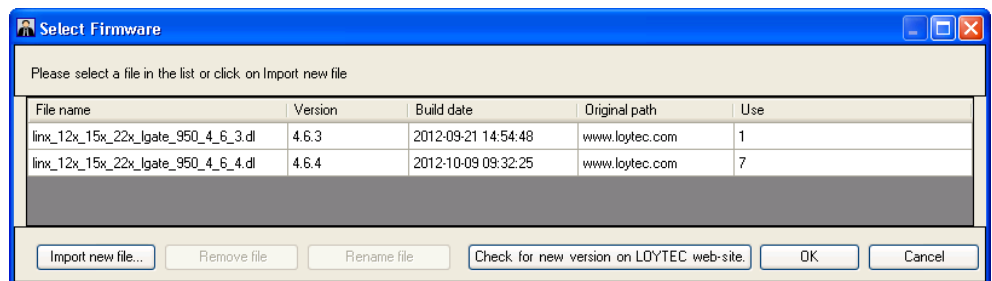

Figure 204: Select Firmware Dialog
3. The **Select Firmware** dialog opens as shown in Figure 204. The dialog displays a list of compatible firmware files available in the LWEB-900 database. If the desired firmware version is already available in the list, select it and press **OK**. You can either import a new firmware file from the hard disk or check if a new firmware is available on the LOYTEC web site: